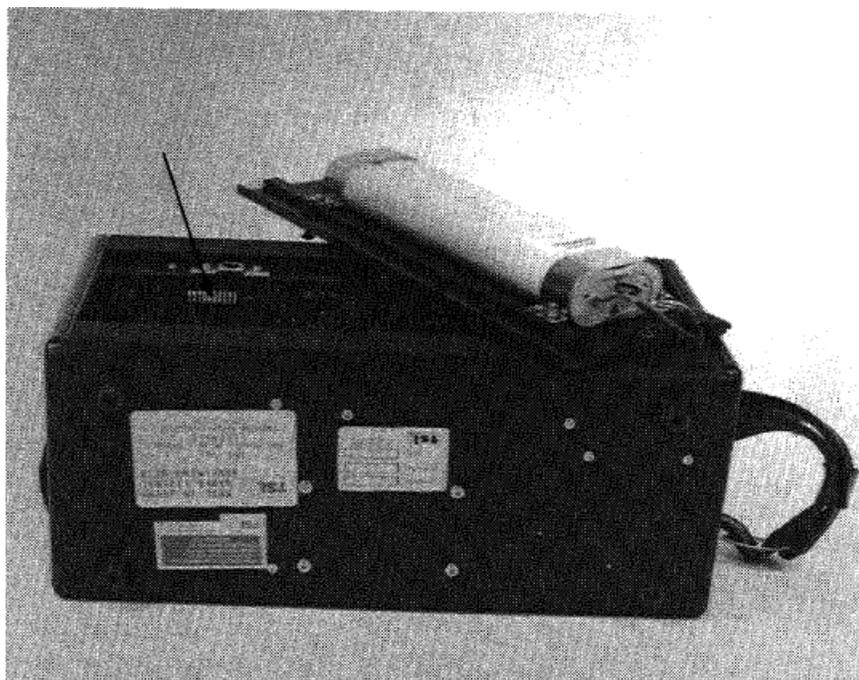

Figure B-1. Location of DIP switches
- Step 2.** Locate the row of DIP switches on the back side of the control panel (righthand side) (Figure B-1).